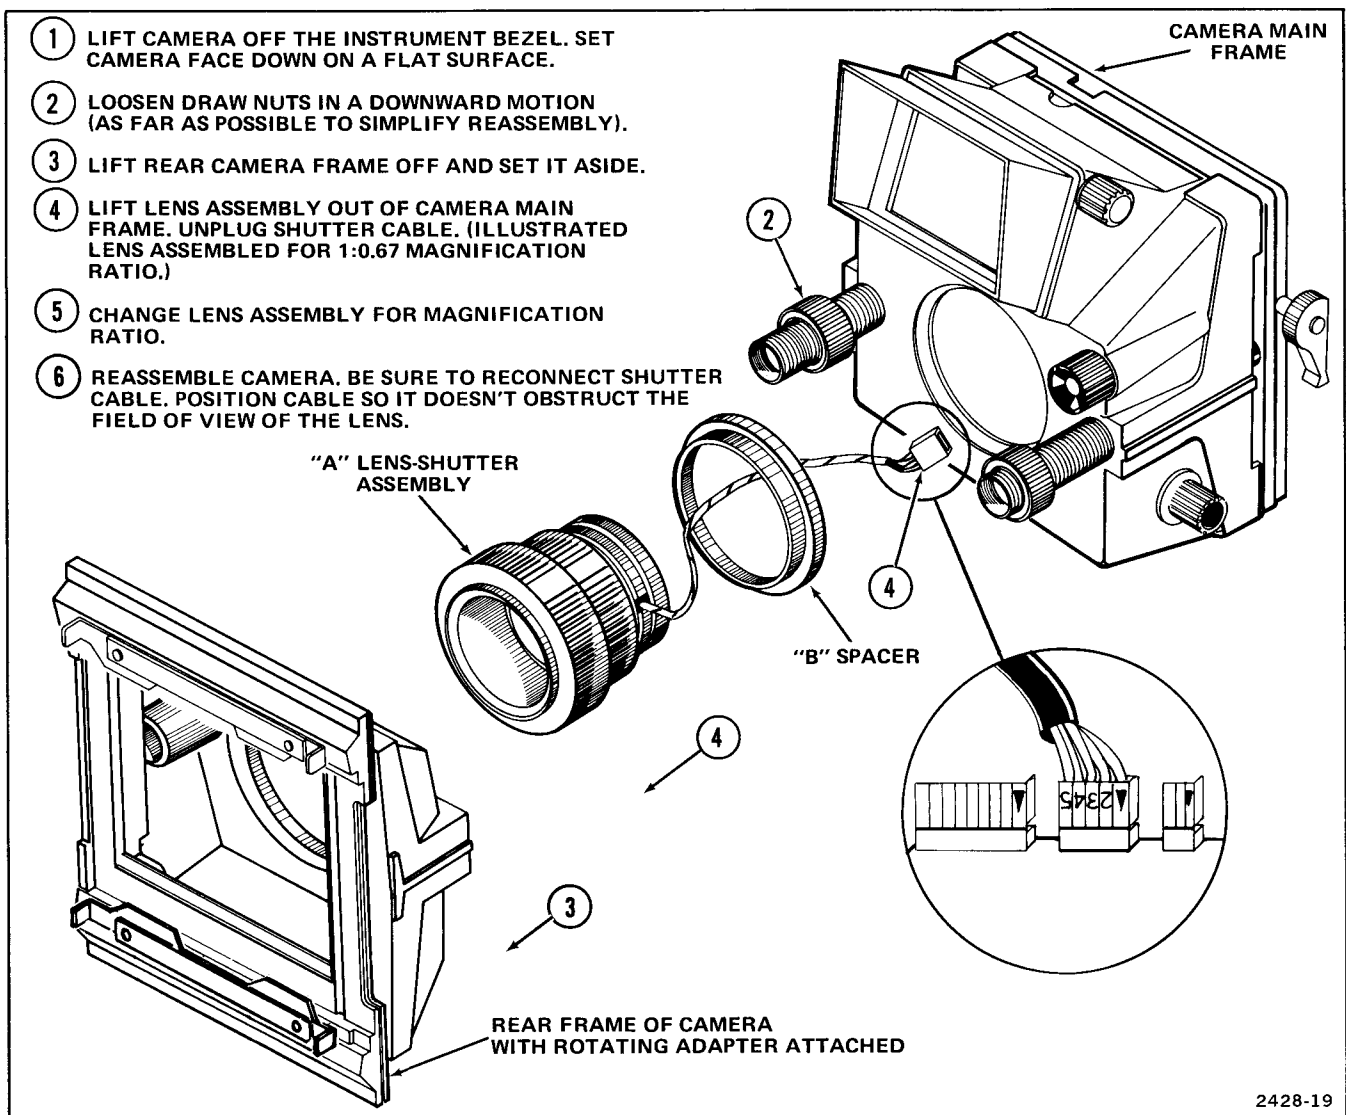

Figure 2-6. Removing the lens-shutter assembly.
2. Lift the camera off the mounting adapter. Set the camera face down on a flat surface (Figure 2-6).
3. Unscrew the draw nuts holding the main and rear camera frames together. (Refer to Figure 2-6.)
Object-to-image ratio options are permanent fixed assemblies without spacer rings. Procedures for installing fixed assemblies are identical to those for changing standard assemblies described in the preceding section (See Figure 2-6).